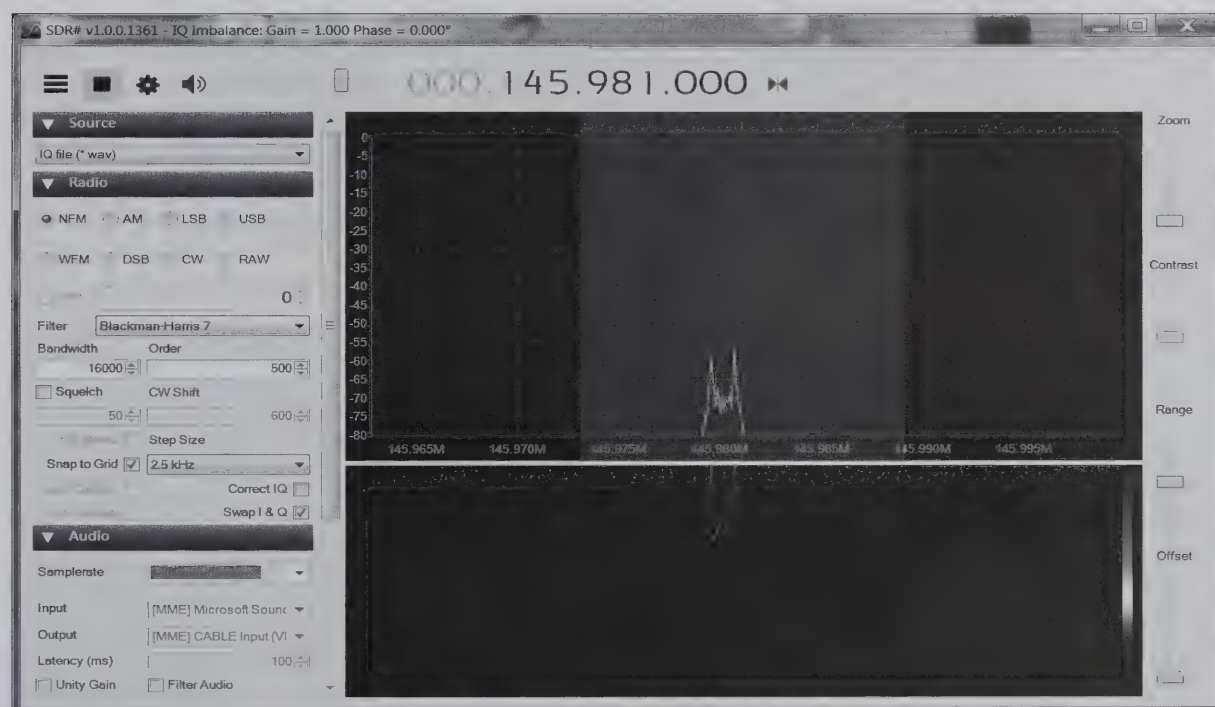

Figure 7.
6. To test your system, download the wav files (Safe mode) from amsat.us/FoxTelem/recordings/. See section 3.3 of the manual. These files are for the HDSDR program and give odd results with SDRSharp. Note that "Correct I Q" must be unticked and "Swap I & Q" must be ticked to give the correct frequency indication. Patrick, WD9EWK, also has a good source of test files from HDSDR. (See dropbox.wd9ewk.net/ and Figure 7.)